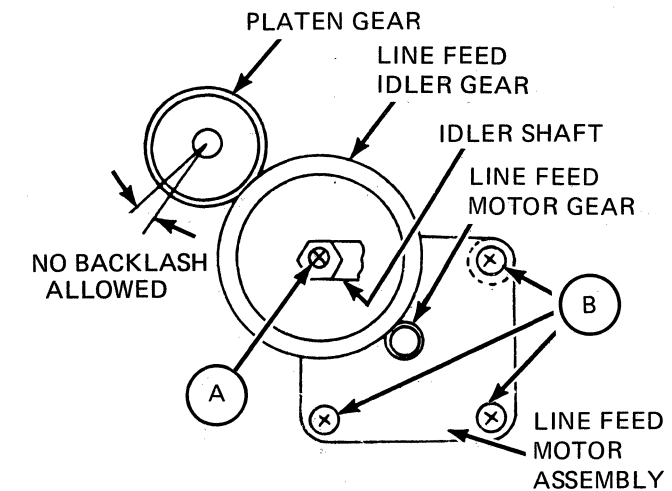

Figure 5-10 Platen Gear Adjustment
- Loosen the three screws (B) on the line feed motor (see Figure 5-10).